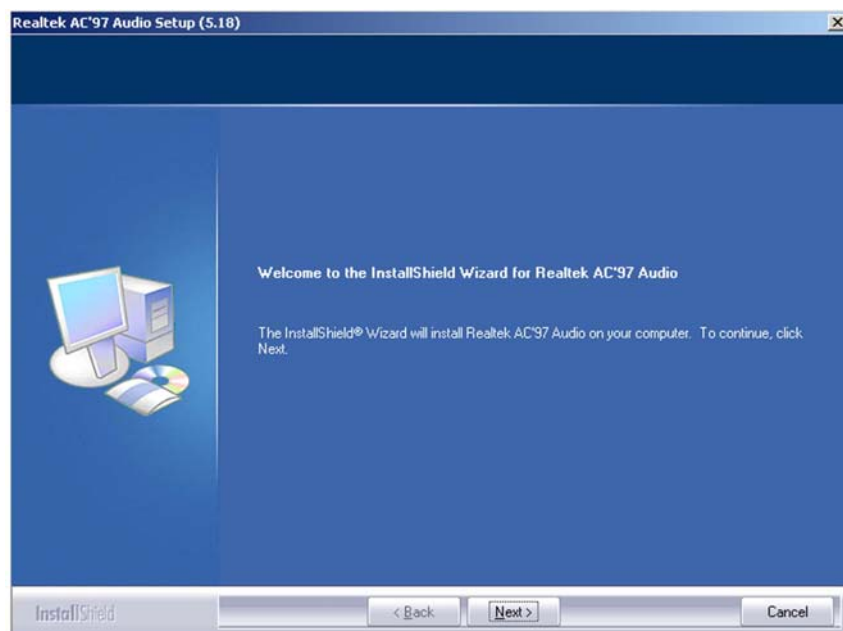
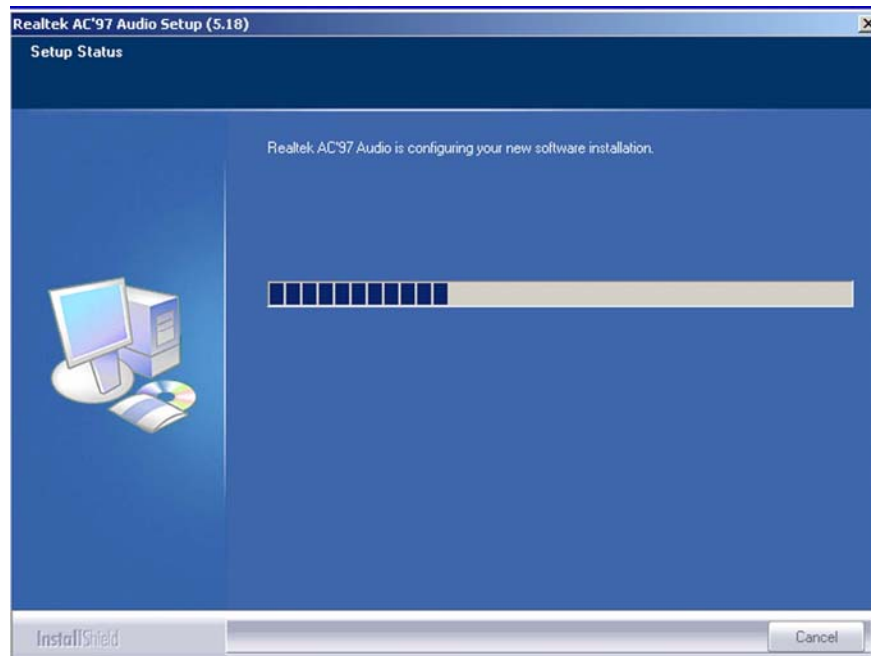

Figure 7-26: AC'97 Audio Driver Welcome Screen
Figure 7-27: AC'97 Audio Driver Software Configuration
Step 6: After the install shield is prepared, the welcome screen shown in **Figure 7-26** appears. To continue the installation process, click the “**NEXT**” button. The install shield starts to configure the new software as shown in **Figure 7-27**.